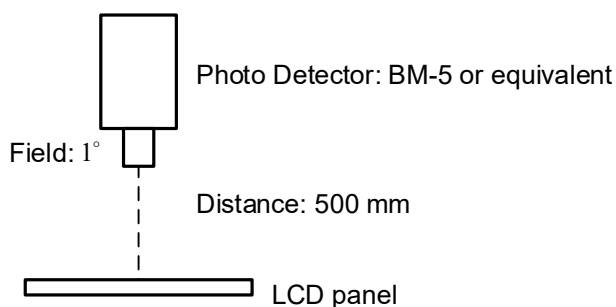

Fig 6.1
- In the dark room less than 100 lx, the equipment has been set for the measurements as shown in Fig 6.1.